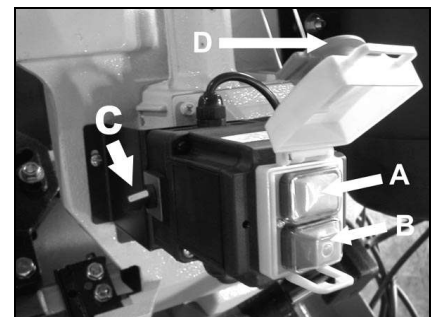

Fig 6
You can start the machine with the green on button (A, Fig 6). The red button (B) on the switch box stops the machine.